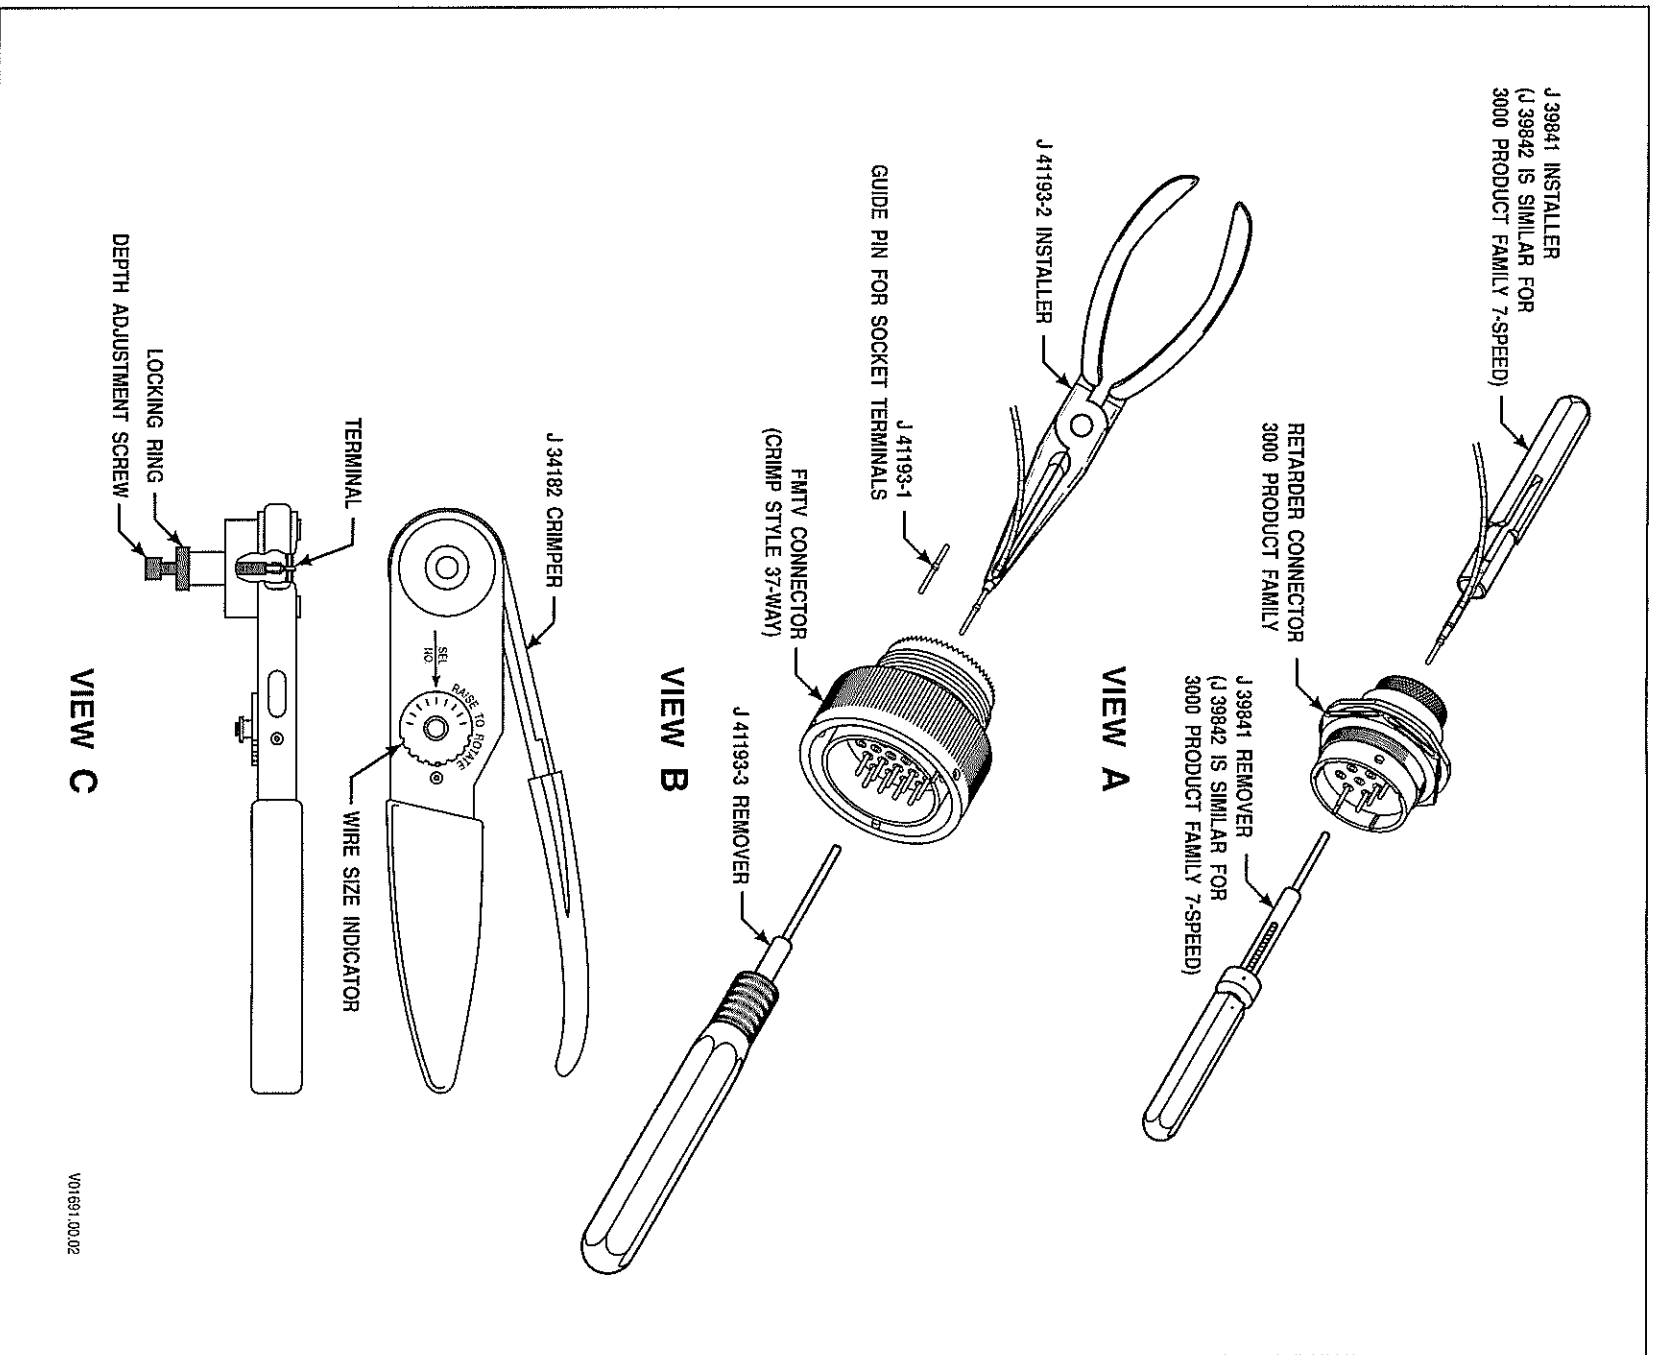

Figure E-14. ITT Cannon Connectors—Crimped (Bulkhead; 6-Way Transfer Case)
B. Terminal Removal (Figure E-14, View A and B)
C. Terminal Crimping (Figure E-14, View C)
C. Terminal Crimping (Figure E-14, View C) (*cont'd*)
2. Place the terminal and wire in the insertion tool (Figure E-14, View A and B).